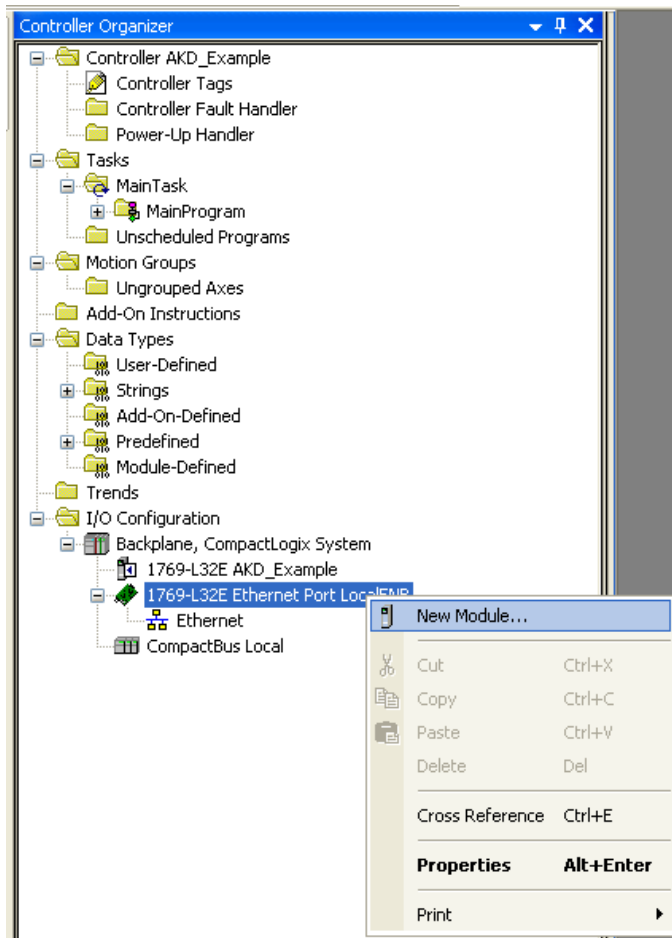

Figure 4-1: Adding New Module
2. Right click on the Ethernet port in the I/O Configuration and select “New Module...” (Figure 4-1: Adding New Module)